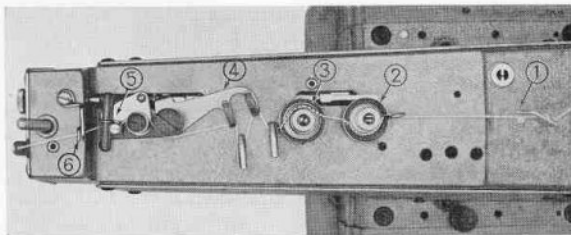

Fig. 6
## 9. THREADING THE MACHINE (Fig. 6, 7)
To thread the machine, put it in stop motion position, and thread in accordance with the diagram as shown in Fig. 6, 7. Start from thread spool stand → needle thread guide pin No. 1 ① → tension disc No. 1 ② → tension disc No. 2 ③ → thread pull-off lever ④ → nipper ⑤ → thread guide No. 2 ⑥ → upper eyelet of face plate → thread guide No. 3 ⑦ → needle bar bearing block and thread guide ⑧ → thread tension disc No. 3 thread guide ⑨ → tension disc No. 3 ⑩ → to the needle eye from front toward rear and draw the thread out about 6~7 m/m (about 1/4").